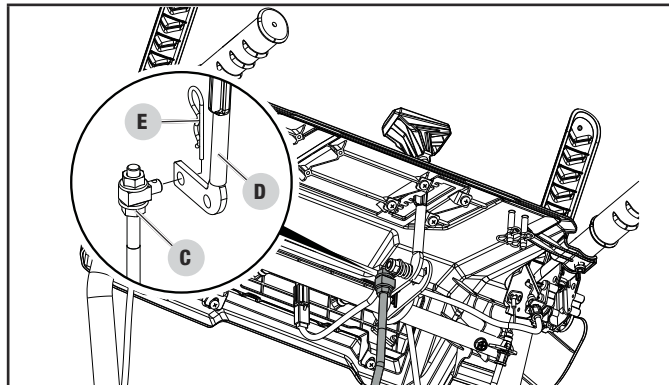

Figure 7
Move the speed selection lever until the connecting pin (C) lines up with the hole in the speed selection lever (D). Push pin (C) into the hole in the speed selection lever (D). Move speed select lever to R2 to give more room to insert the R-pin. Push the R-pin (E) through the hole in pin (C) (Fig. 7).